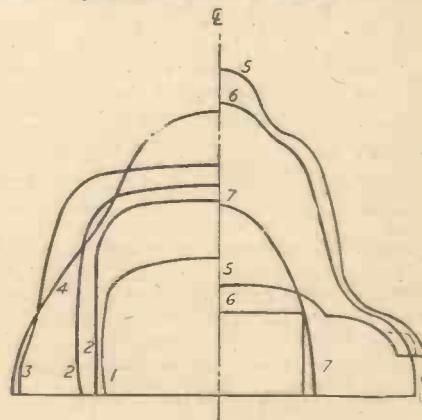

Fig. 8.—Cross-sections of the bodywork.
- I. The front section, which is built up from layers of $\frac{1}{2}$ in. deal glued together and carved to shape as in the general views and cross sections (Fig 8) and screwed to the chassis plate with wood screws.